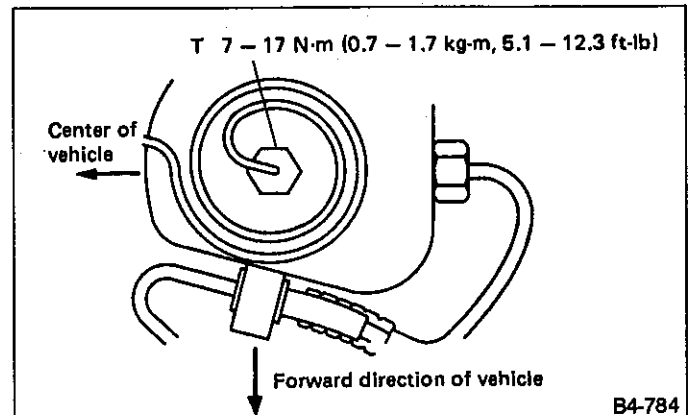

Fig. 113
- d. Check that air pipe faces center of vehicle as shown in Figure 113.